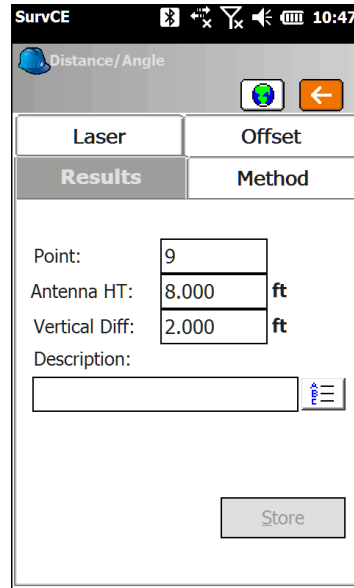

Figure 10
2. Tap on the Results tab and enter in the Antenna Height and Vertical Diff to the point, as well as any Description (Fig.10)